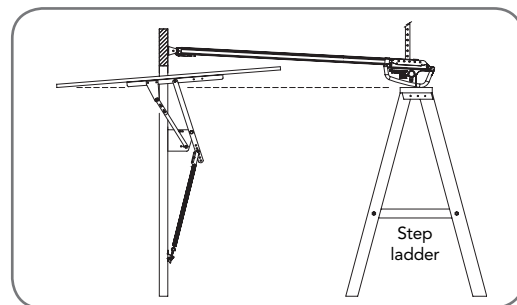

fig 16
- Rest the opener on the top edge of the door with end of the rail against the wall (Fig. 16).
- Support the powerhead level with the lowest point of the open door (Fig. 16).